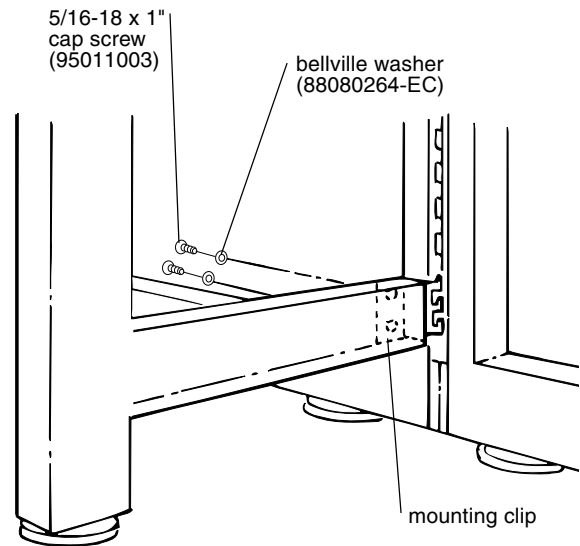

Figure 1
1. Install a clip into the bottommost slots of panel hanger frame with the tabs facing up. (Figure 1)